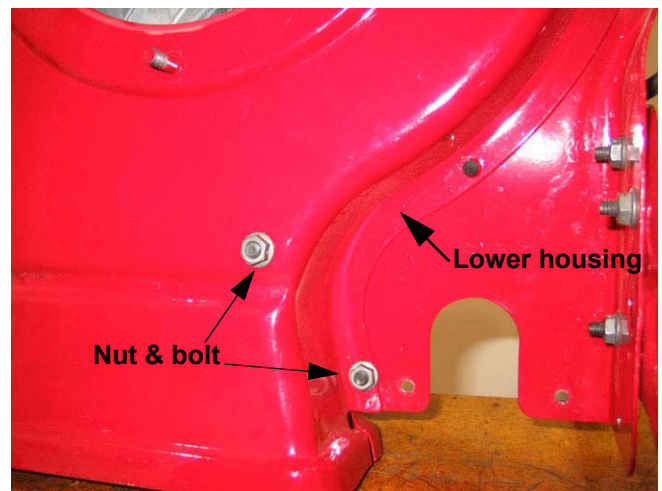

Figure 4.10
- 4.10. Remove all of the fasteners holding the lower housing to the upper housing. See Figure 4.10.